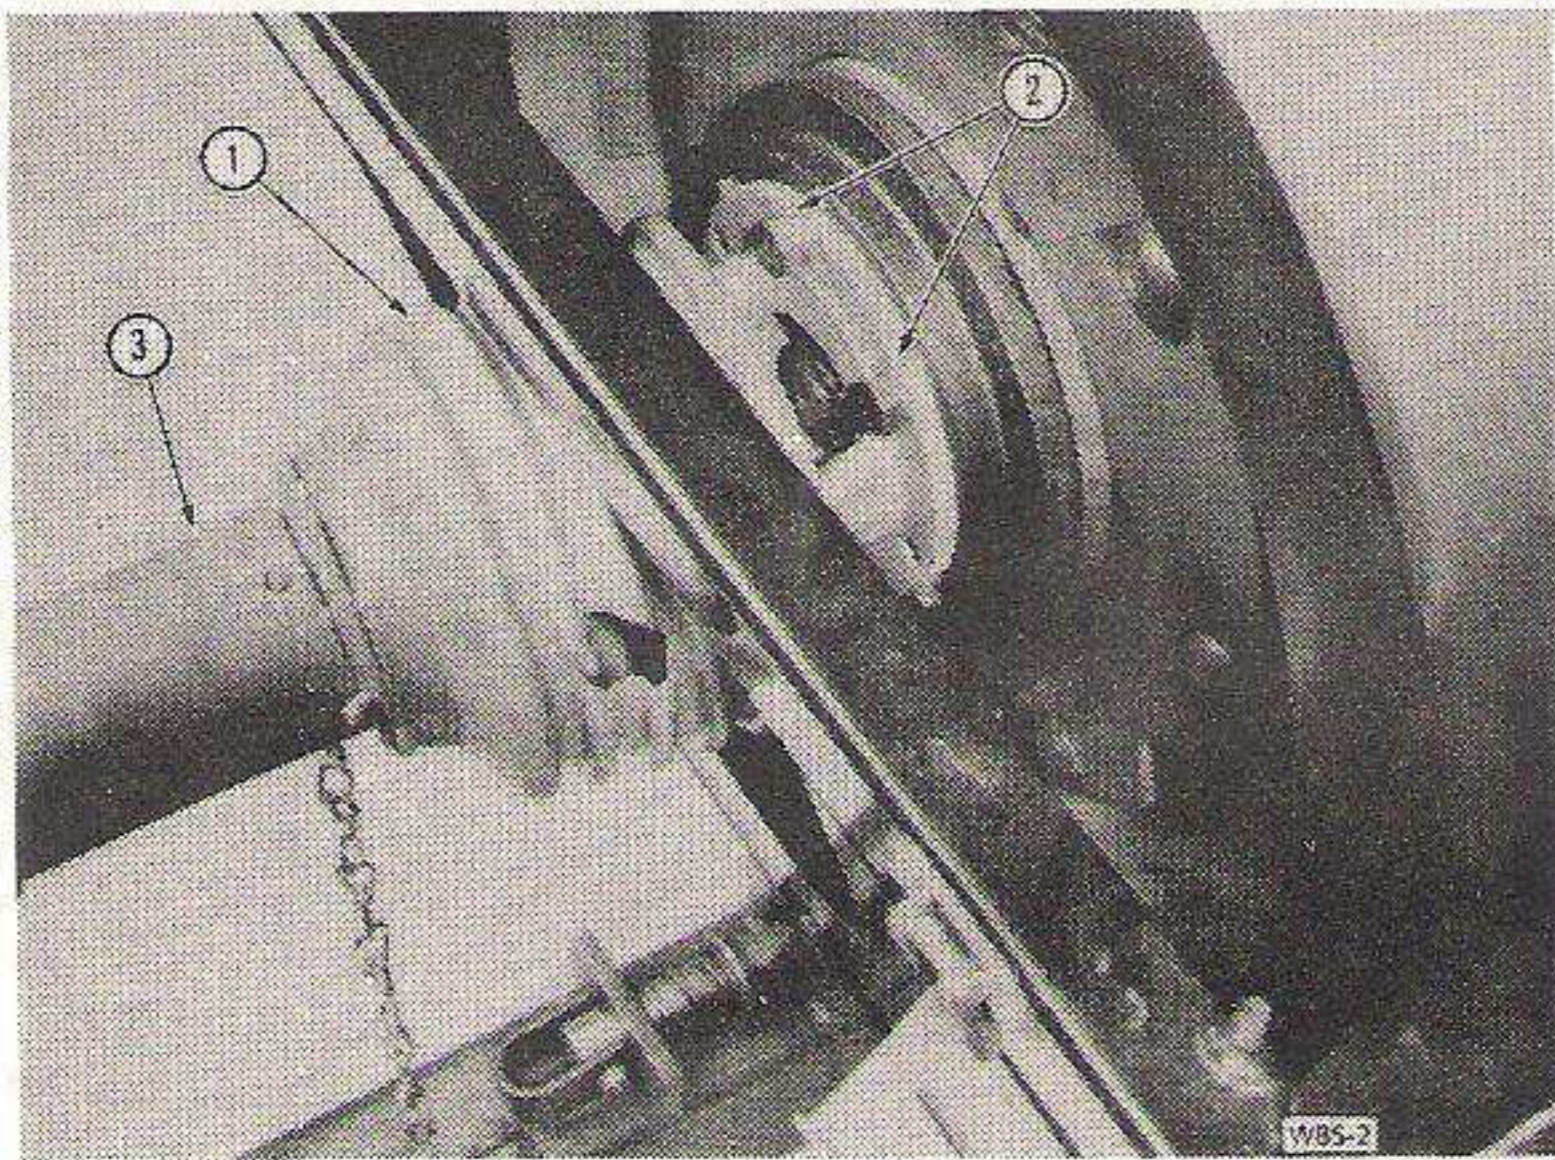

Fig. 5
I. Three Joint Shaft. (Fig. 5) 461/471/481